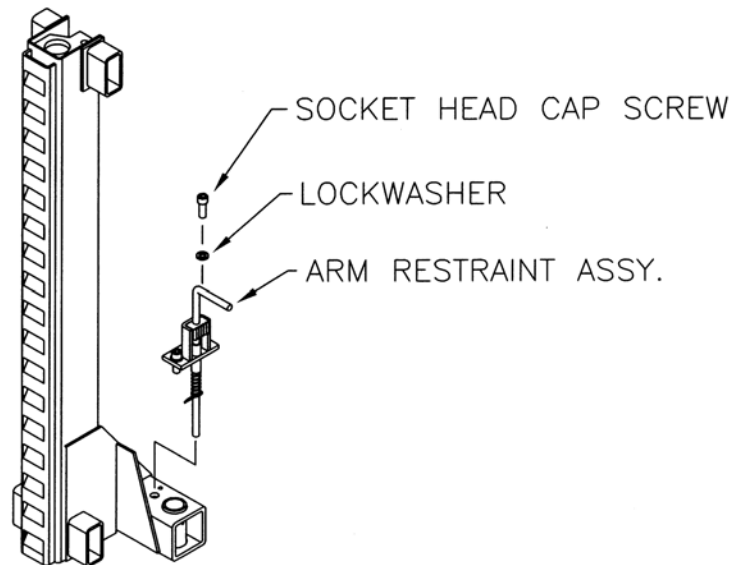

Figure 12 – Arm Restraint Installation
Using two (2) 3/8"-16UNC x 1" LG. socket head cap screws, and two (2) 3/8" ID lockwashers, install the arm restraint assemblies as shown in **Figure 12**. Before tightening completely, make sure that the arm restraint has full contact with the arm restraint gear by pushing it firmly against the arm.